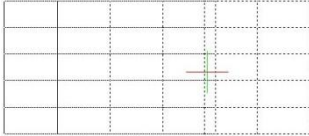

Fig 17
- 3. Specify the place or distance to drag to (left is positive). (Fig17)